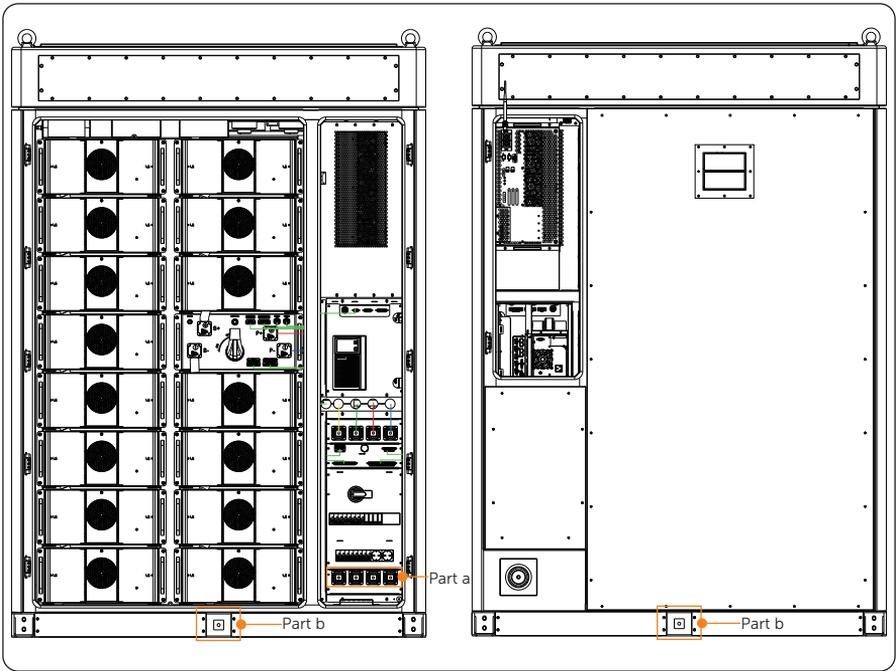

Figure 7-1 Part that needs wiring
- Before wiring, operators are required to learn which parts need to be conducted wiring. For details, please refer to Figure 7-1.
Regarding the grid connection, namely **Part a** in “Figure 7-1 Part that needs wiring”, please strictly follow the steps below.
Regarding the grounding plate connection, namely **Part b** in “Figure 7-1 Parts that need wiring”, either connection area is available, please strictly follow the steps below.